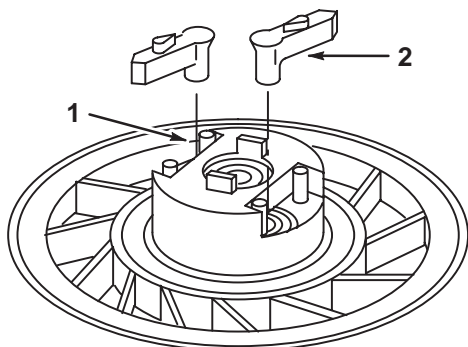

Fig. 78 – Installing Pawls
1. Position pawls over posts in pulley and install, Fig. 78.